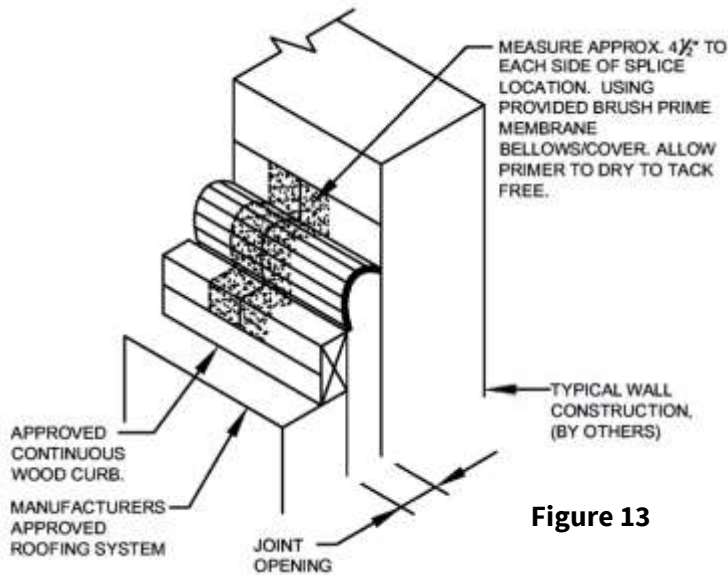

Figure 13
14. Measure approx. 4½" to each side of splice location. Using provided brush & primer, prime membrane bellows/cover. Allow primer to dry to tack free. Typical@ each splice location. **See Figure 13**